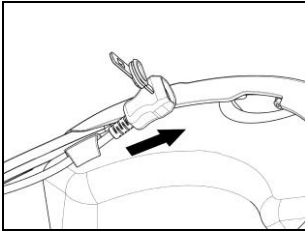

Fig. 18
- Pass the charging cable through the elastic band found on the comfort padding (Fig. 18).